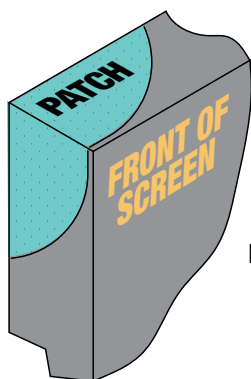

Figure 5
6. After the surface has been adjusted (*if necessary*) and completely snapped onto the frame, peel the liner from the corner patch and place it on the screen fabric at each corner to conceal any gap (Fig. 5). These patches may not be necessary if outside edges of screen are not visible after installation.